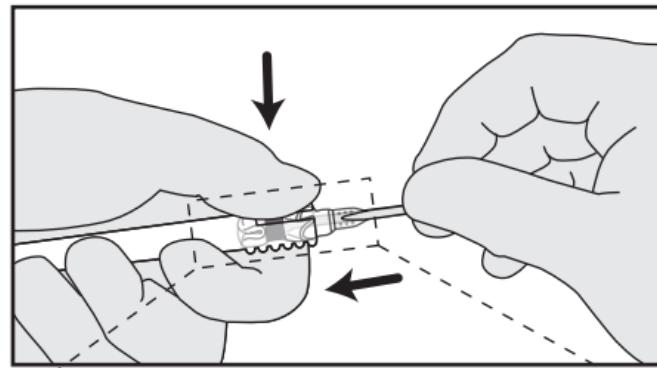

Figure 7
- During loading of the prosthesis make sure that the esophageal flange is completely folded forward in the loading tube (Fig. 7). Incorrect loading can cause device damage with immediate valve failure and fluid aspiration.
5. Press the protruding part of the flange forward with your thumb into the loading tube. The esophageal flange should now be completely folded forward (Figure 7).